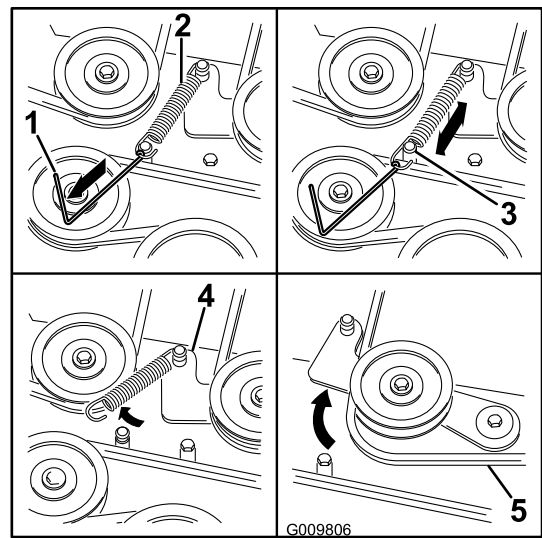

Figure 67
5. Using a spring removal tool (Toro part no. 92-5771), remove the idler spring from the deck post to remove tension on the idler pulley (Figure 67).
1. Install the new belt around the mower pulleys and the clutch pulley under the engine (Figure 67).
2. Using a spring removal tool (Toro part no. 92-5771), install the idler spring over the deck post and place tension on the idler pulley and mower belt (Figure 67).